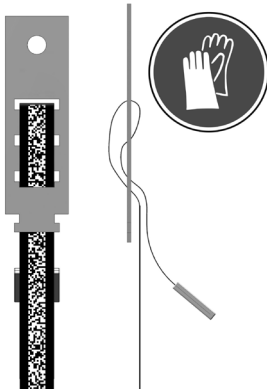

Figure 23: Top tension lock threading
1. Thread the end of the APS code tape into the top tension lock → Figure 23.